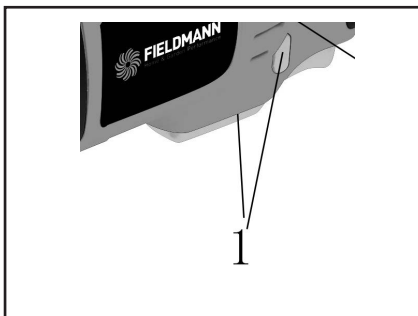

Fig. 5
- ✿ To turn the tool ON, slide the ON/OFF switch (1) toward the front of the tool (Fig. 5).
3. Place the tool with the saw blade (3) lightly touching the surface of the tile and the cutting teeth NOT touching the surface to be cut.
4. Set the speed to the fastest speed and turn to tool ON (Fig. 5 & 6)
3. Place the saw blade (2) near the floor surface in the middle of one of the cutting lines.
4. Set the tool speed at a medium speed and turn the tool ON (Fig. 5 & 6)
2. Place the outlet box on the drywall and use a soft lead pencil to trace the required rectangular hole (1) on the drywall
3. Place the corner edge of the saw blade (2) near the drywall in the middle of one of the cutting lines.
4. Set the speed to the highest speed and turn the tool ON (Fig. 5 & 6)
4. Turn the switch ON as outlined in Fig. 5
2. Set the speed control wheel to #4 and turn the switch ON as outlined in Fig. 5 & 6.